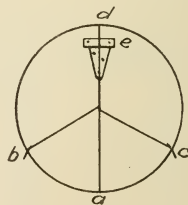

FIG. 87. — POINTS AT WHICH HINGES ARE ATTACHED.
6. Laying off and boring screw holes for the hinges. — There are three legs to be fastened to the tripod head. In order to locate them equidistant it will be necessary to divide the circle into three equal parts. Draw a diameter through the center of the circle and with one leg of the compass at point *a*, scribe points *c* and *b*. The distance between the legs of the compass must be equal to the radius of the circle. These two points with *d* divide the circle into three equal parts. (See Fig. 87.) From points *c* and *b* draw lines to the center; on these lines locate the three hinges by placing the center